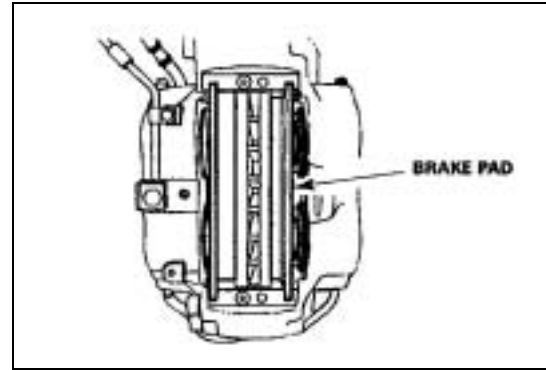

Figure 5
6. Remove the brake pads. **Figure 5.**